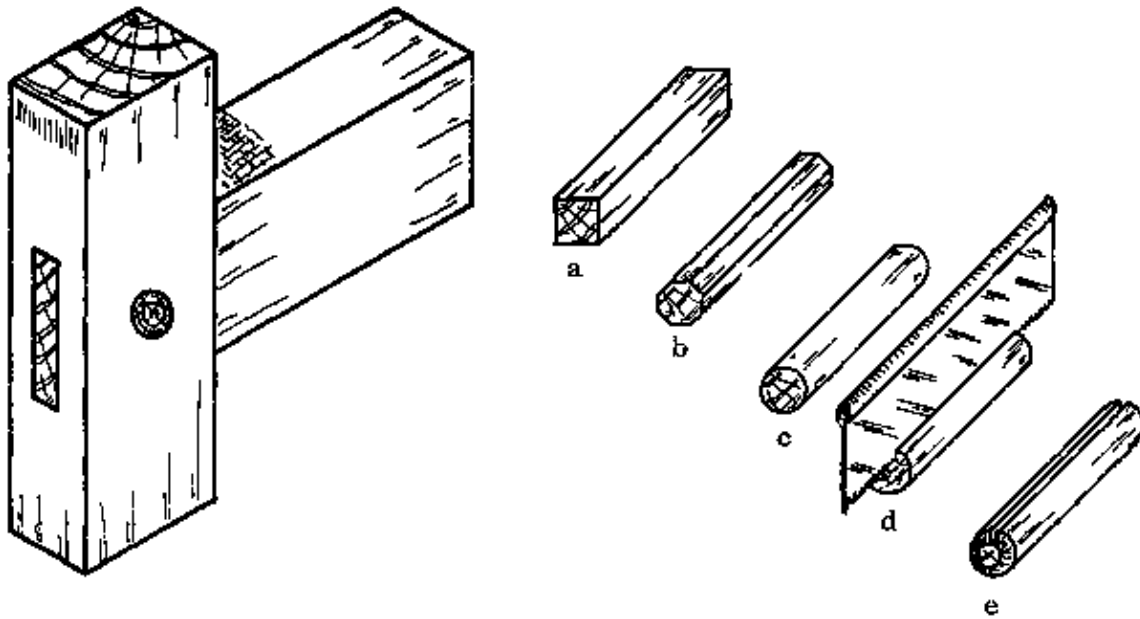

Fig. 1
One or two holes are drilled through the assembled joint and wooden dowels, or pegs, as they are called in this case, are inserted with glue to securely fix the joint (Fig. 1).
– To make the dowels, plane off the corners of a square piece of hard wood, until the piece is round. When the dowel is cut to length, chamfer the ends and cut a groove along the length to permit air and excess glue to escape (Fig. 1, a – e).